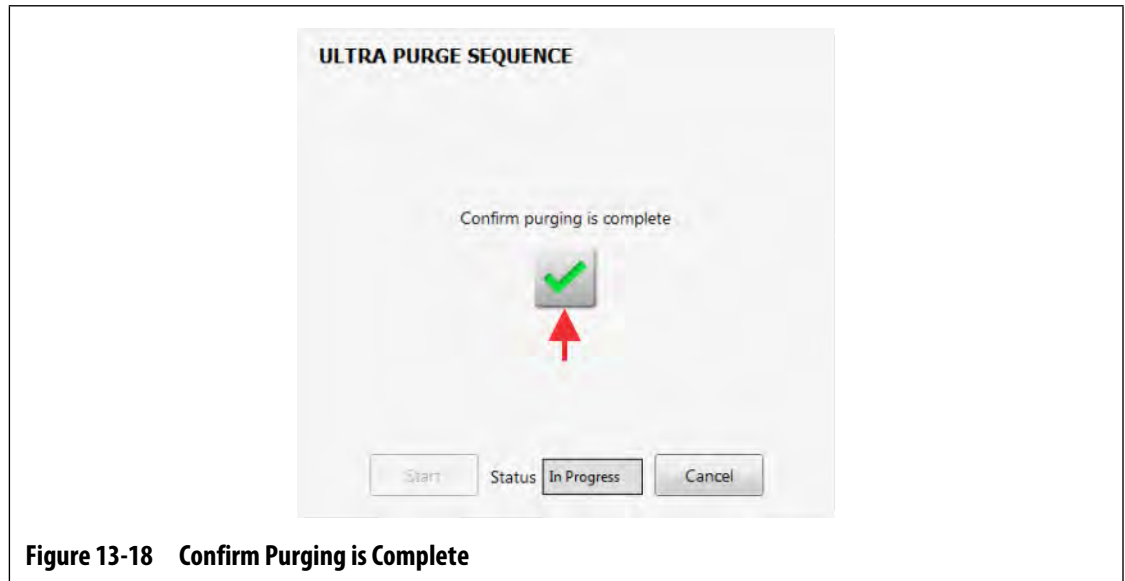

Figure 13-18 Confirm Purging is Complete
24. Touch the green check mark button to confirm that the purging has completed (Figure 13-18).